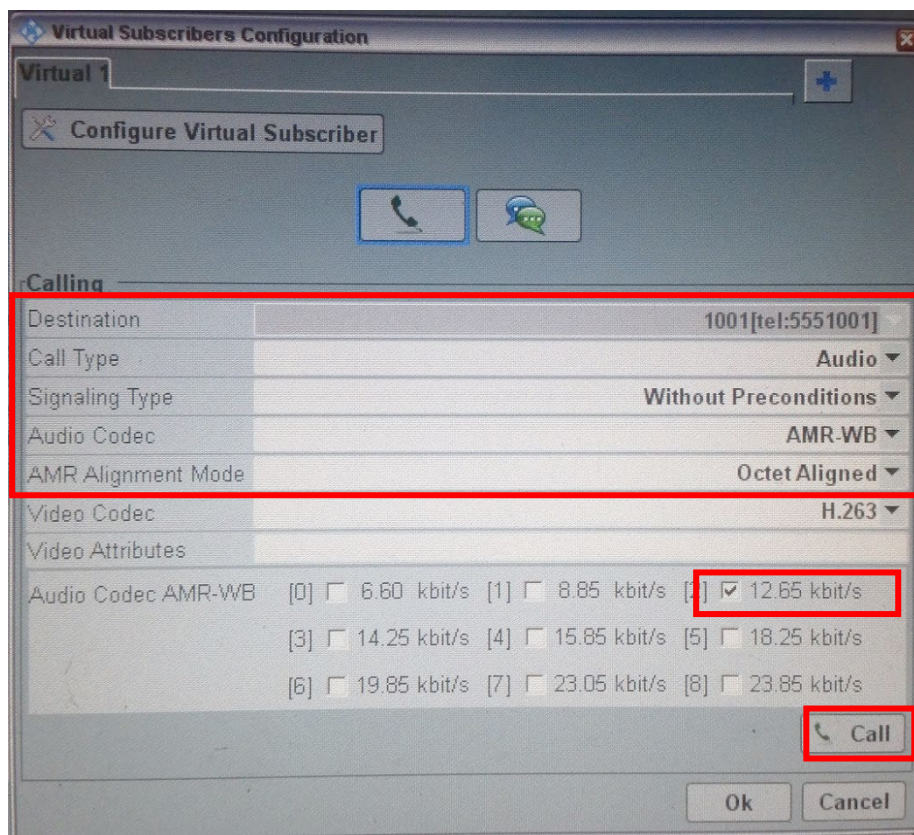

Figure 25: Call Voice over IMS
21. Open the call menu (Figure 25) in the section **Virtual Subscribers Configuration** via the phone symbol button.
25. Start the call by pressing **Call** (Figure 25).